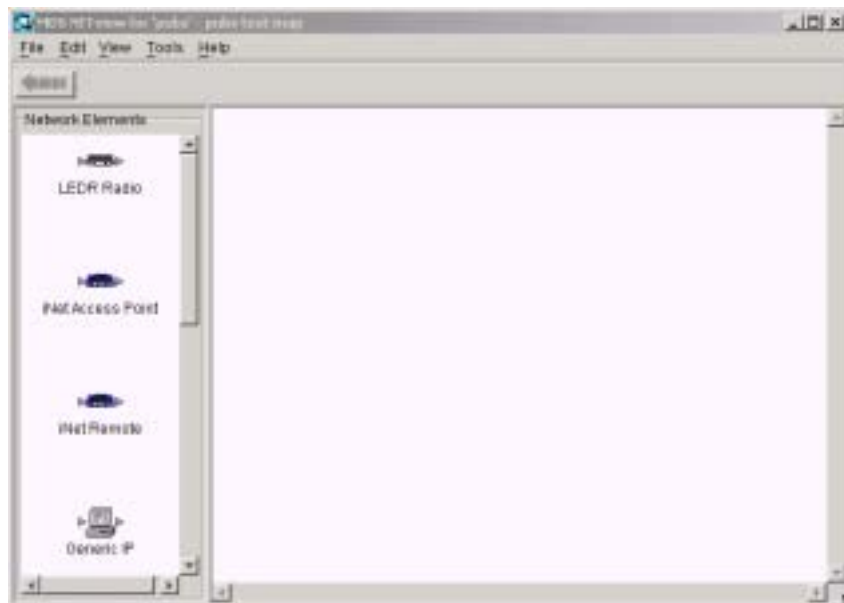

Figure 14. Map Building Screen
- d. A new screen appears that is ready for map building (see Figure 14). Note that the left side of the screen contains a palette of network elements (icons). These icons are used to represent